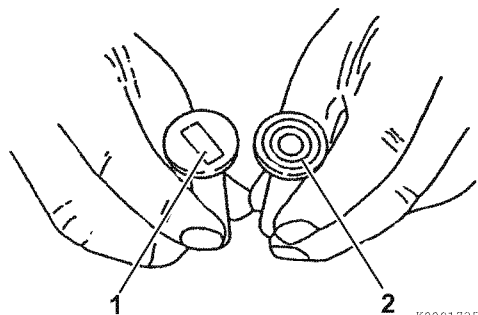

Figure 6-74
1. Inspect the tappet contact surfaces for abnormal wear (**Figure 6-74, (1)**). Normal wear will be even as shown in (**Figure 6-74, (2)**). Slight surface defects can be corrected using an oilstone.